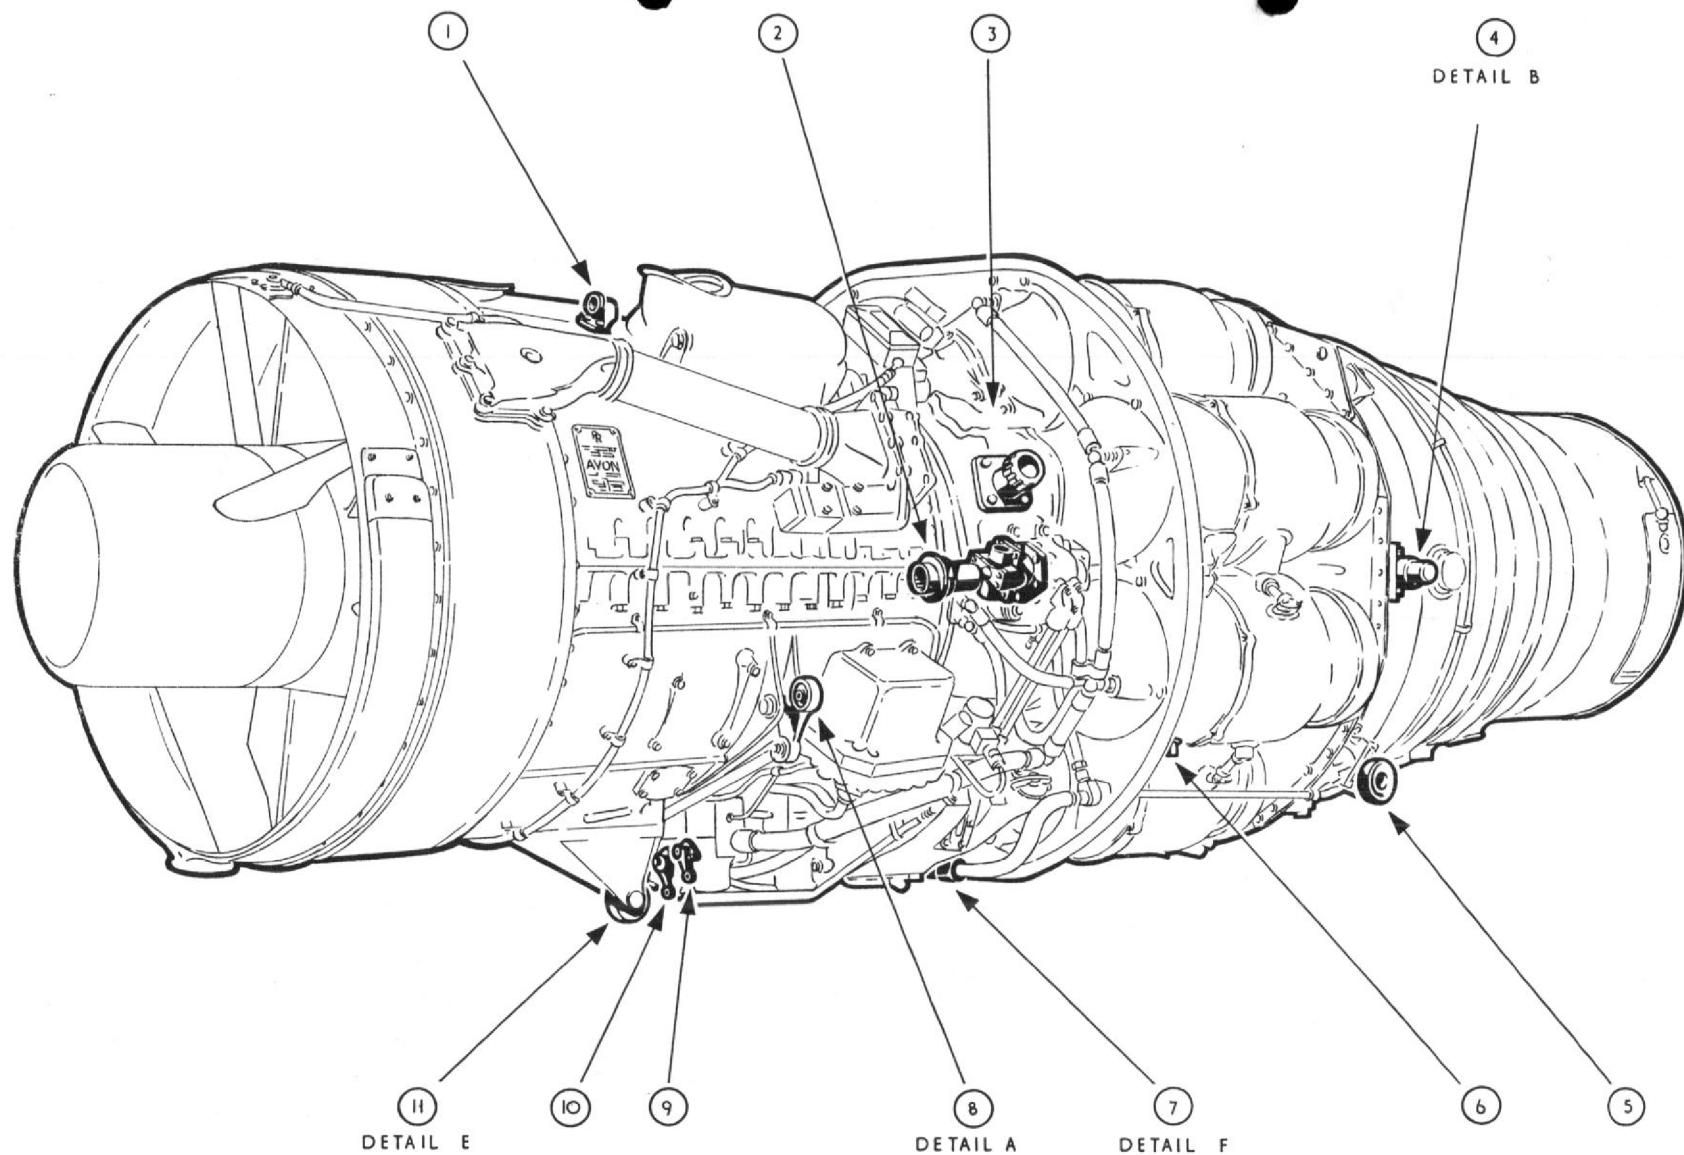
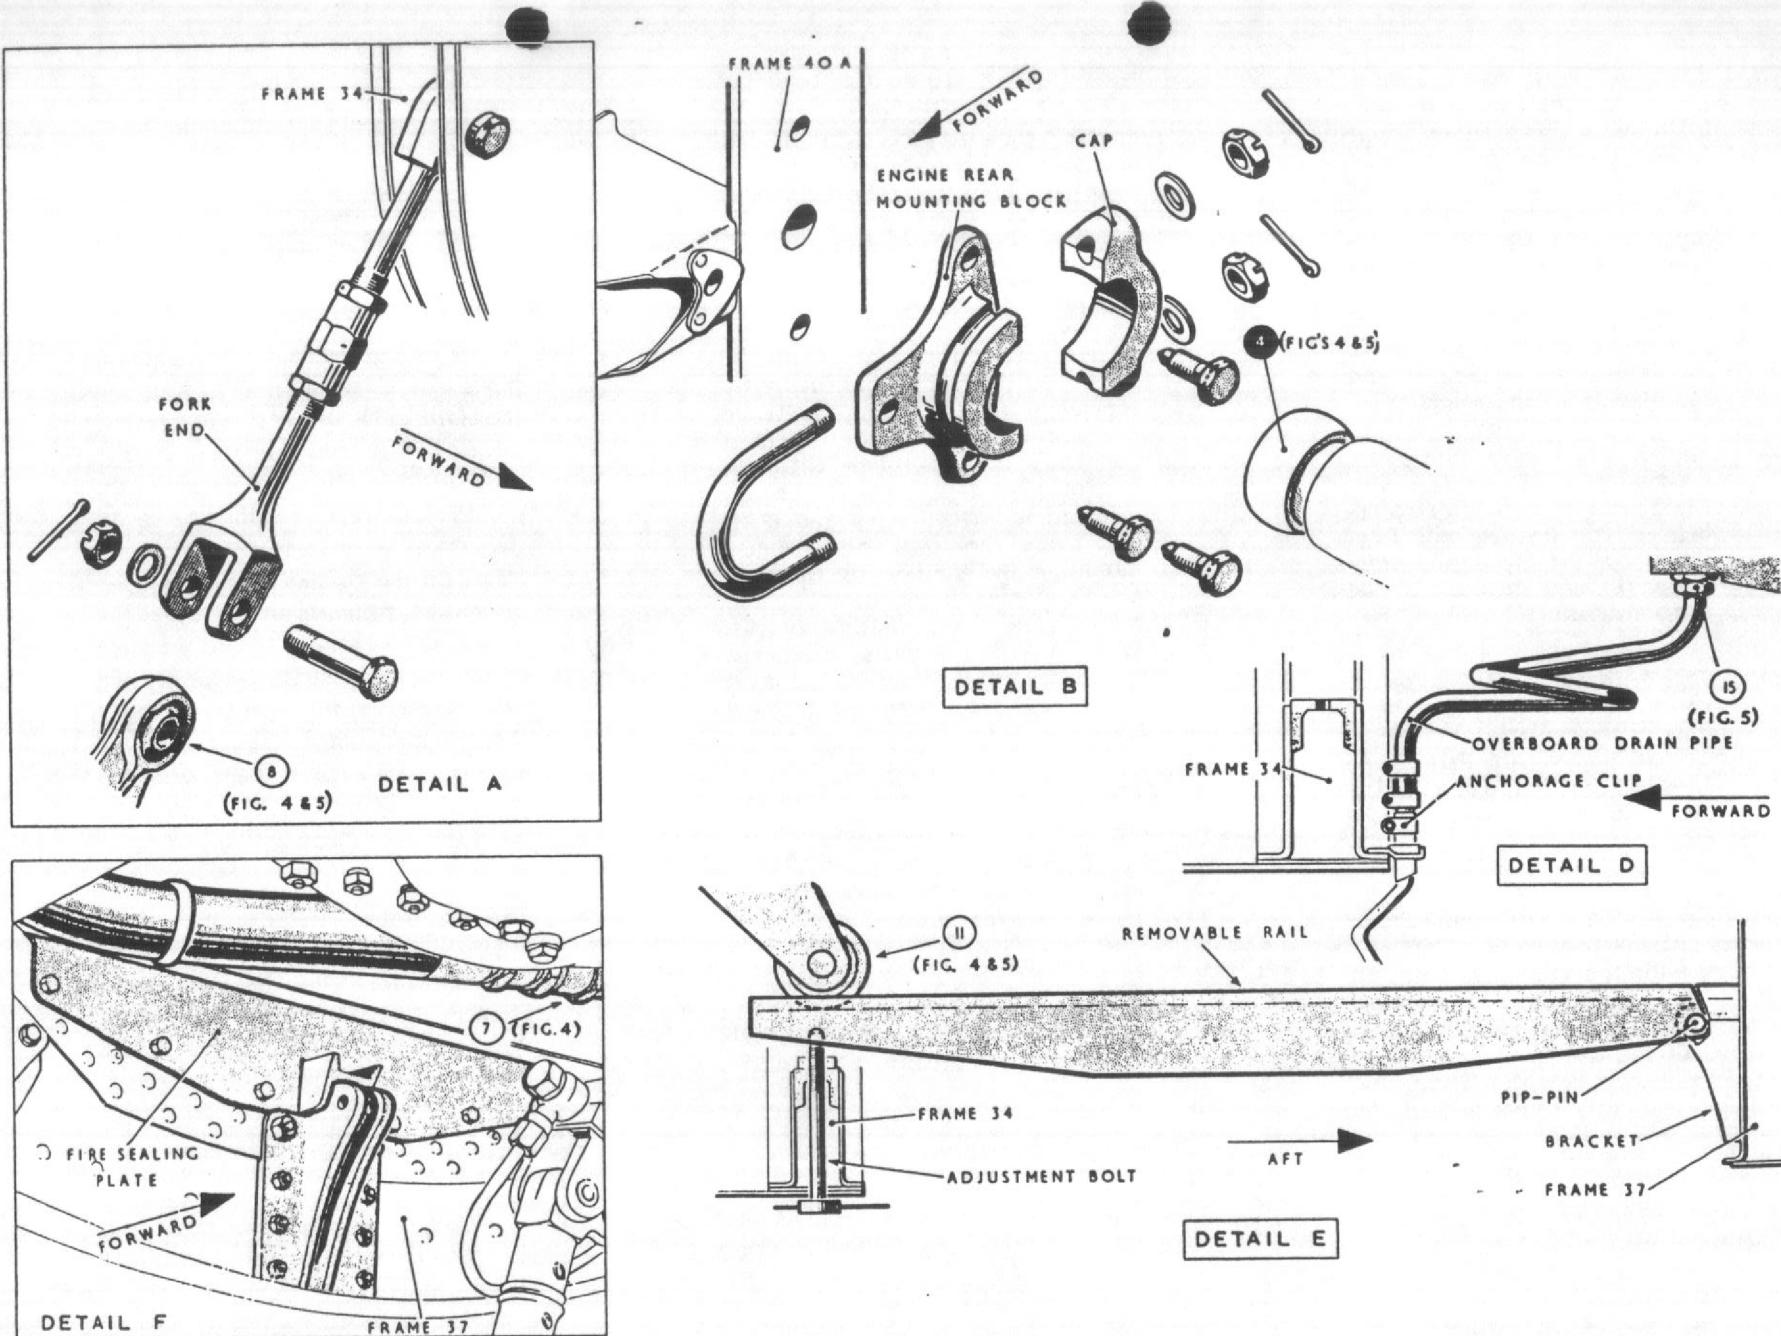

Fig.4. Engine removal (1)
Fig.6 Engine removal (3)
Engine removal (fig. 4, 5 and 6)
(c) *Engine access door.* Disconnect and remove the drain pipe from the oil filler (item 18, fig. 5). Disconnect the overboard drain pipe (detail D, fig. 5 and 6) from the engine access door landing aft of frame 34 by removing the anchorage clip from the drain connection and from the spill connection (15) at the bottom of the fuel units and fuel pressure warning light switch. Remove the drain pipe from the aircraft. Disconnect the two connecting rods from the high pressure cock and throttle levers (item 9 and 10, fig. 4) and from their respective Teleflex wrapped box units on frame 34. Disconnect the fire extinguisher hose (detail F, fig. 4 and 6) from the rigid metal pipe (item 7, fig. 4) on the engine. Tuck back the hose behind frame 37. Unscrew the six bolts from the fire sealing plate (detail F, fig. 4 and 6) on the forward face of frame 37. Remove the plate from the aircraft. Unscrew the four nuts and disconnect the fuel inlet
pipe from the fuel units (item 16, fig. 5) and from the connection behind the nearest flexible coupling. Remove the pipe and coupling from the aircraft. Place the removable rail (detail E, fig. 6) between frames 34 and 37 and lock in the bracket on the forward face frame 37 by inserting the pip pin. By screwing up the adjustment bolt through the bottom of frame 34 bring the rail into contact with the engine front roller (11) (detail E, fig. 6).
(d) *Engine front mounting access panels.* Disconnect the engine front mountings (detail A, fig. 4 and 6) and pull the fork ends flush to frame 34 in order to clear the engine front mounting eyes (item 8, fig. 4) and avoid fouling the engine on removal. Prise back the serrated, spring loaded locking ring and unscrew the shaft retaining nut to break down the gearbox drive shaft (item 2, fig. 4).
Disconnect the high energy igniter plugs (item 6, fig. 4 and 5) from the combustion chambers numbers 3 and 6.
- (f) **Cold air unit access panels.** Disconnect the flexible metallic fuel-tank pressurizing pipe from the engine (item 3, fig. 4) and from the non-return valve aft of frame 36. Remove the pipe from the aircraft. Disconnect the flexible air conditioning pipe from the engine (item 12, fig. 5) and from the connection behind the flexible coupling. Remove the pipe and coupling from the aircraft.
- (g) **Engine bleed valve duct panel.** Pre-mod H.1193 aircraft. Disconnect the flexible metal-braided gun heating pipe from the elbow on the engine (item 1, fig. 4) and tie back to the aircraft structure.
(7) Having disconnected the above items, align the engine removal trolley with the engine rail lug on the rear face of frame 40A. Screw down the built in jacks at each corner of the trolley and raise it to the required height. Bring the engine rear roller channels of the trolley into alignment with the engine rear rollers (item 5, fig. 4 and 5) by turning the lateral adjustment handles on the cross members above the trolley axles. Lock the trolley to frame 40A by inserting the pip pin in the connecting link of the trolley. Dismantle the engine rear mountings (detail B, fig. 6) by removing the split pins, slotted nuts and washers
from the 'U' bolts. Withdraw the caps off the 'U' bolts. Pull the engine rearward about six inches in order to free the special bolts securing the rear mounting blocks (item 4, fig. 4 and 5). Break the wire locking and unscrew the three special bolts securing the engine rear mounting blocks to frame 40A. Remove the blocks from the aircraft. Transfer the engine from the aircraft to the trolley and secure by replacing the retaining bolts in front of the engine rear rollers at the ends of the roller channels. If the engine is not to be re-installed remove the pin and bearing from the port rear engine mounting and the bearing from the starboard rear engine mounting and retain with the mounting blocks. Withdraw the pip pin to disengage the trolley from frame 40A. Lower the trolley on to its wheels and tow away.